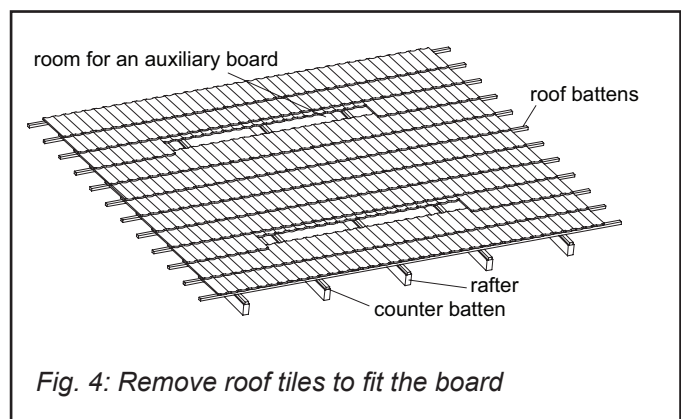

Fig. 4: Remove roof tiles to fit the board
- Remove roofing so that auxiliary boards can be inserted (approx. distance between boards 1600-1800 mm). For roof tiles, just shifting them upwards in the length of the auxiliary board is sufficient (see Fig. 4).